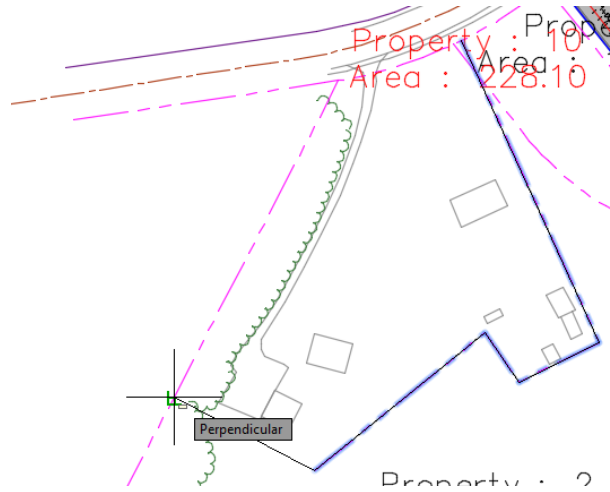

FIGURE 12.8 Completing the farm property boundary by clicking a point perpendicular to the west property boundary
11. Once you have selected the last point on the fence, use the Perpendicular object snap to select the western boundary line, as shown in Figure 12.8.